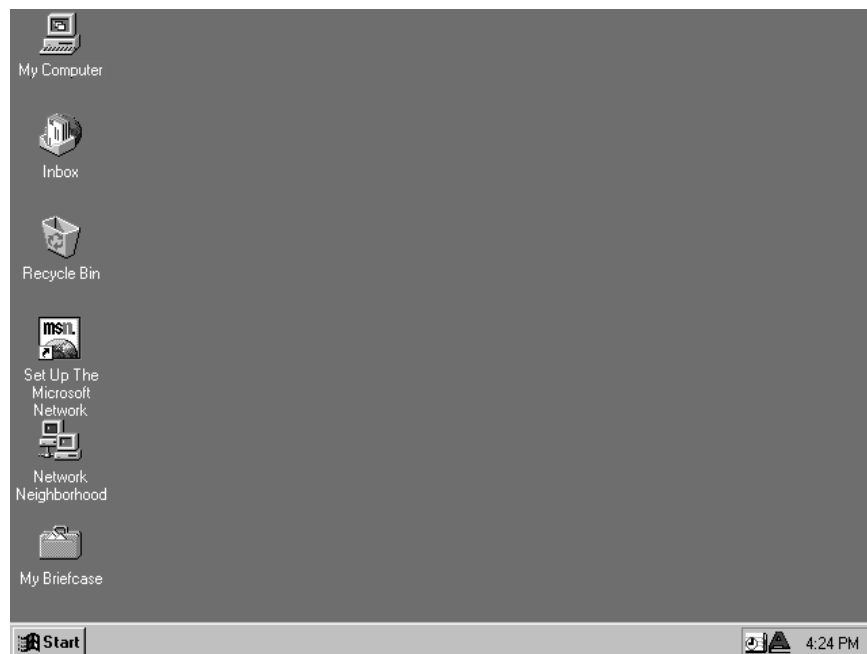

Figure 2-7
3. Once the Express Configuration Wizard is closed, the Windows 95 or Windows NT 4.0 taskbar will have a new icon in the Tray Tool. Figure 2-7 illustrates the new taskbar with the new icon in the Tray Tool.